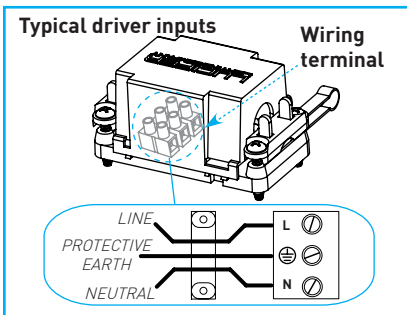
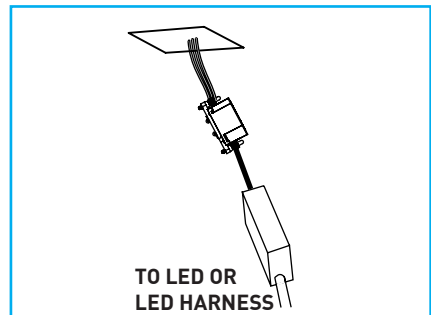

Fig.2
Fig.3
Locate and guide structured wiring / conduit down and through ceiling cutout "Fig.3".
Driver assembly provides integral wiring terminal (Fig.2) and typically accepts 3 wires for connecting to the mains voltage: Black (Line / Hot / Switching), White (Common) and Green (Protective Earth Ground).
**Note:** Improper polarity may cause damage to the unit and can void the warranty. Consult wiring diagrams in Section J, joining structured building wires to corresponding driver terminals (Fig.2). Carefully raise finished power supply up through fitting aperture, and rest atop ceiling. (Fig.3)